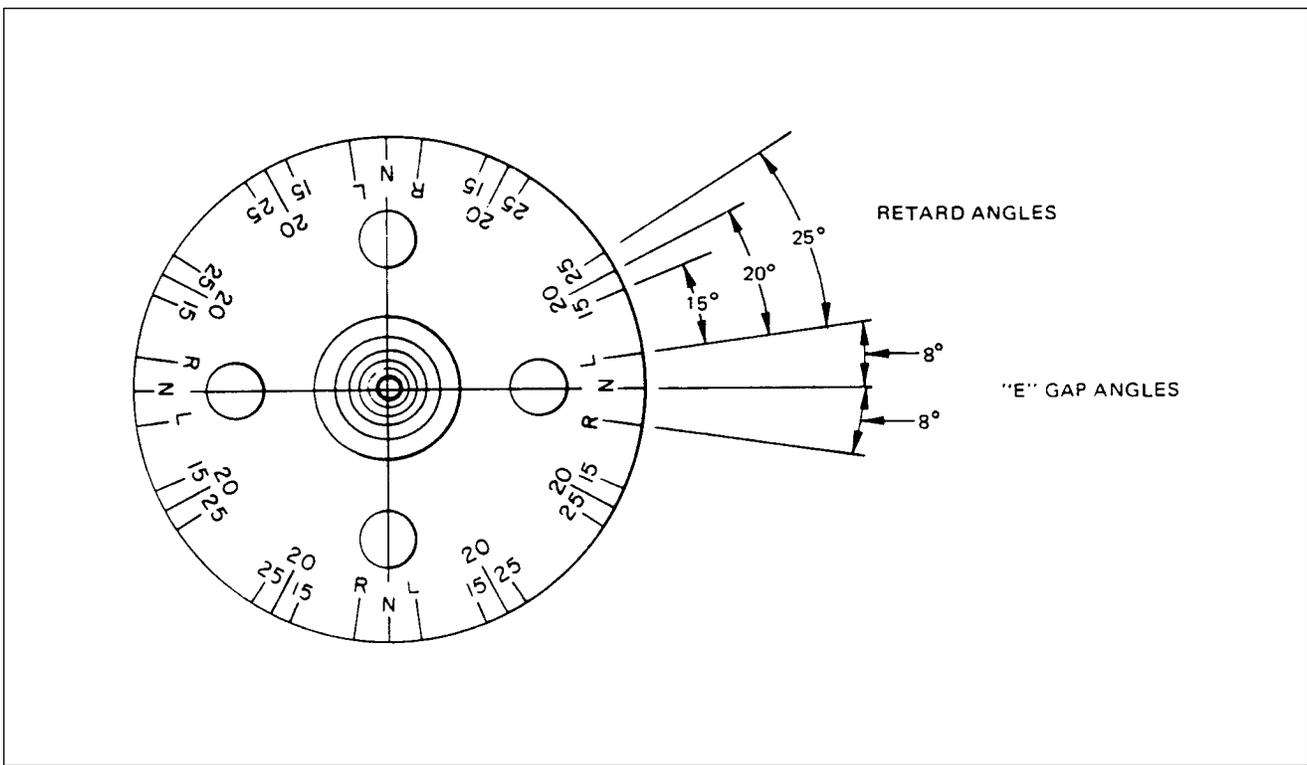
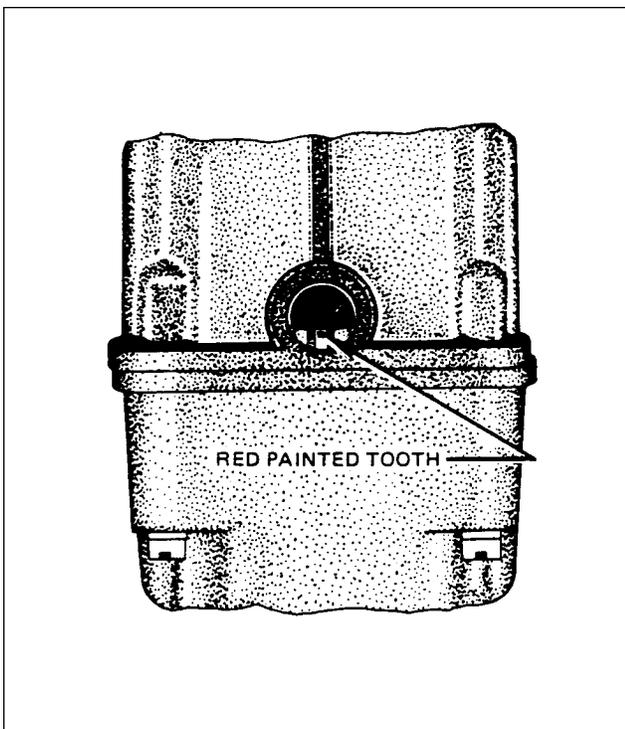

Figure 74-5. Timing Marks on Magneto Rotor
Figure 74-6. Painted Tooth Centered in Timing Window
2. The magneto incorporates a built-in pointer and a degree wheel with sufficient reference to assist in magneto timing. Marks printed on the rotating magnet indicate magneto neutral and magneto E gap (8°). (Refer to figure 74-5.) Retard angle references of 15, 20, and 25 degrees are included. These marks are set up for either clockwise (R) or counterclockwise (L) rotation of magneto as viewed from magneto drive end. The large distributor gear timing tooth is marked with red paint. (Refer to figure 74-6.)